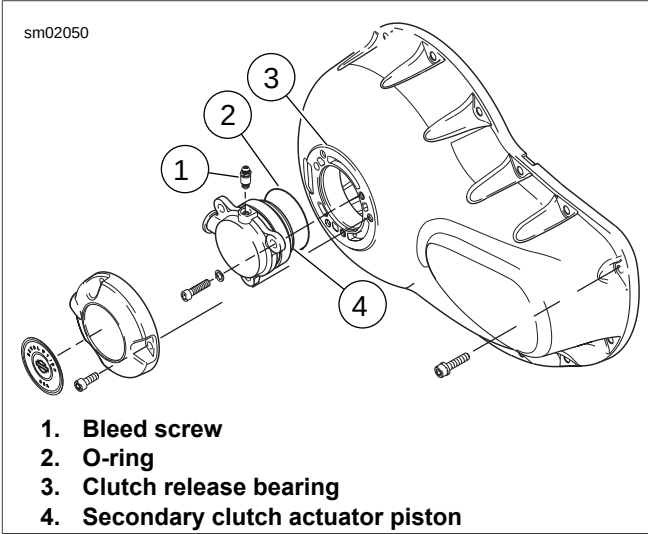

Figure 2-33. Secondary Clutch Actuator
3. See Figure 2-33. Inspect O-ring (2). Replace if necessary and install actuator.